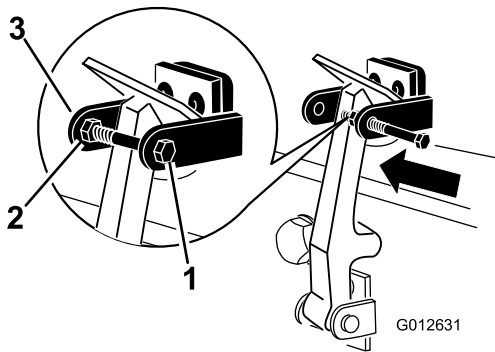

Figure 9
7. Screw the bolt into the other arm of hood lock bracket to lock the latch in position (Figure 9).